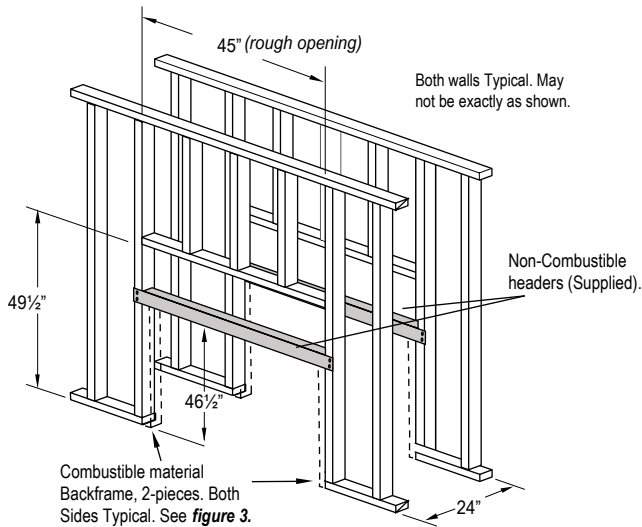

Figure 2. Framing dimensions, (Both Sides Typical).
1). Frame in the enclosure for the unit with framing materials. The framed opening for the assembled fireplace is 45" wide, x 49½" high x 24" deep, see Figure 2.
Frame the fireplace cavity according to Figure 2.